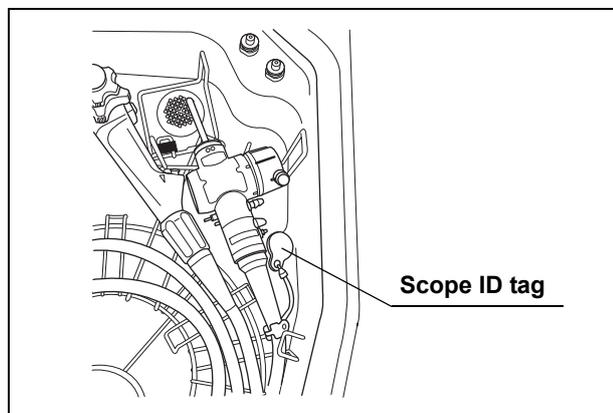

Figure 4.16
- When loading only one conventional endoscope or two conventional endoscopes that are 180 series or older, it is possible to place endoscope connector without tilting. In this case, the endoscope connector of the first endoscope should be placed on rear right of the basin horizontally as shown in Figure 4.16. If scope ID tag is attached to the endoscope, place the scope ID tag in the position shown in Figure 4.16.